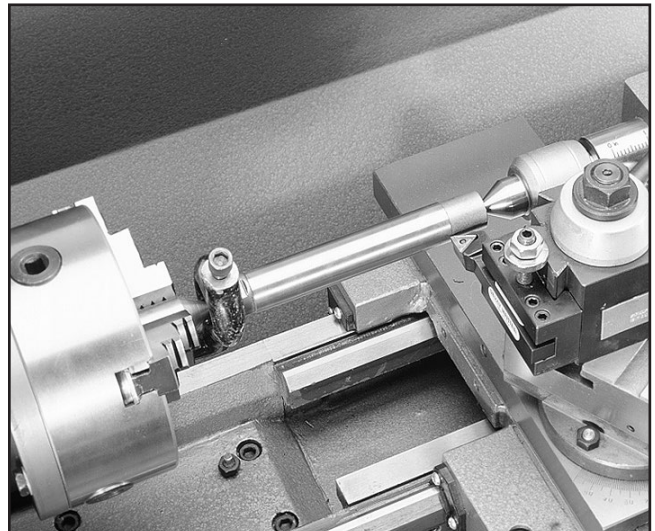

Figure 38. Bar stock mounted between centers.
4. Attach a lathe dog at the spindle end to the bar stock from **Step 1**, and mount it between the centers as shown in **Figure 38**.